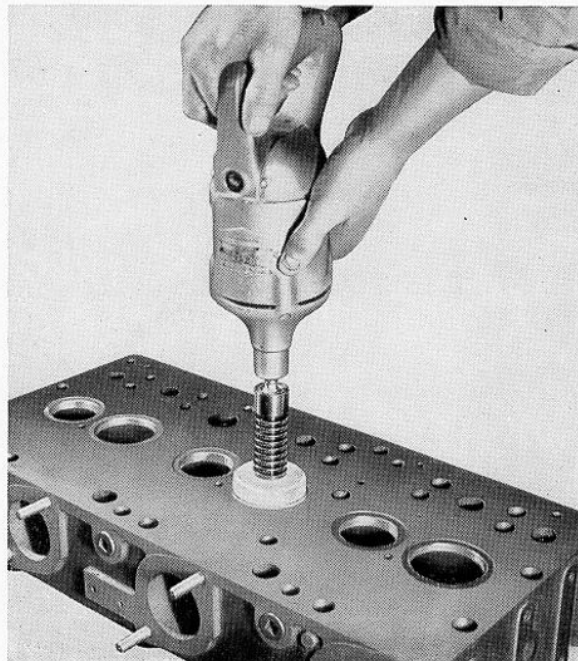

FIG. 13. GRINDING VALVE SEATS
1. Examine the valve facings and seats. If the valve seats are at all pitted and require grinding, a special carborundum tool must be used. This must have a working face of  $30^\circ$  (the accuracy of this angle is important), and must be accurately positioned by a spindle located in the valve guide (Fig. 13). The stone must be rotated at high speed. The face of the seat should be concentric with the valve guide bore to within .0005 in. (.013 mm.) total clock reading.